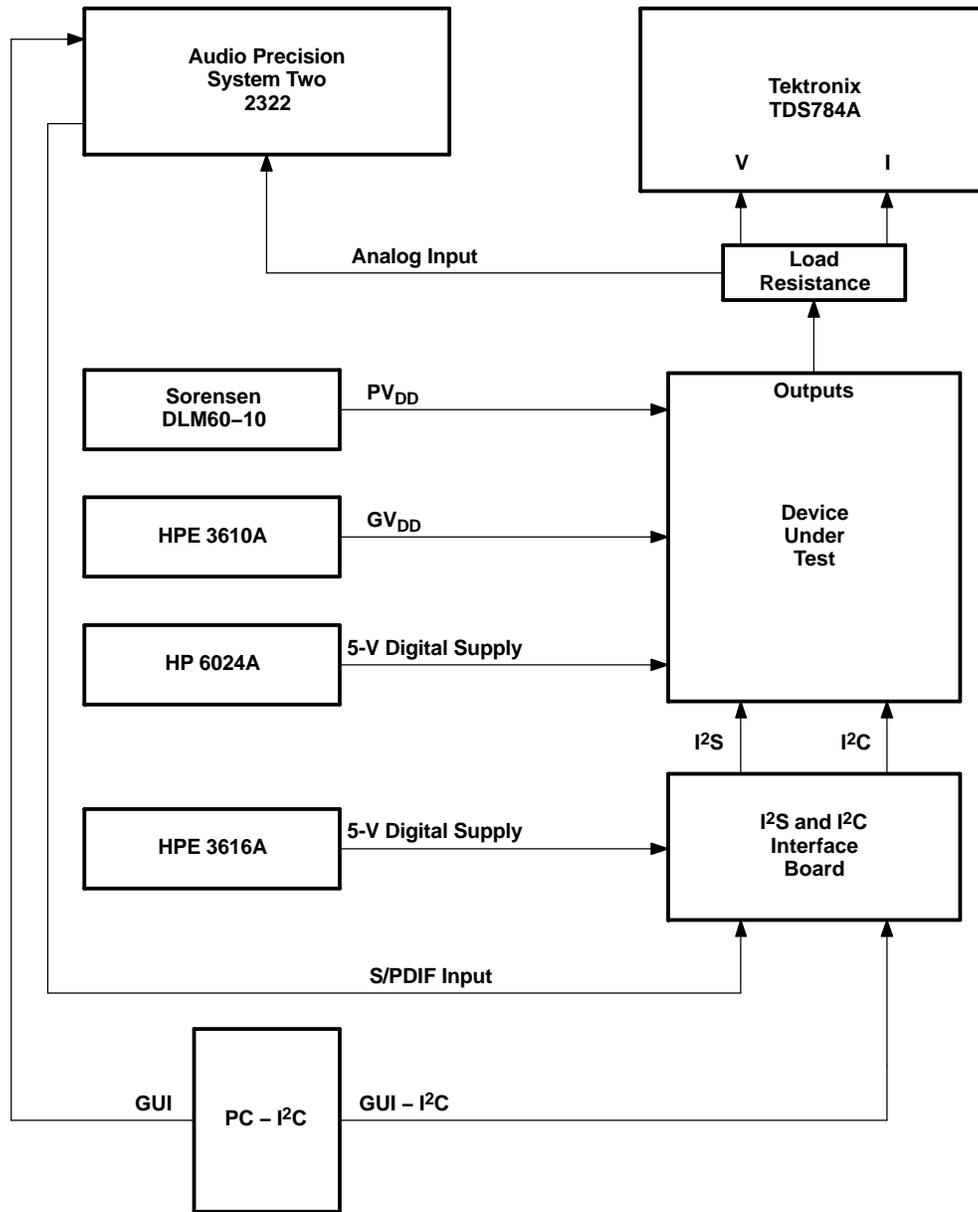

Figure 1. Test Setup Block Diagram
- (1) See Appendix A, Figure 1. For correlation with the AP measurement, see Appendix B, Figure 1.
(1) See Appendix A, Figure 1.
- (1) See Appendix C, Figure 1.